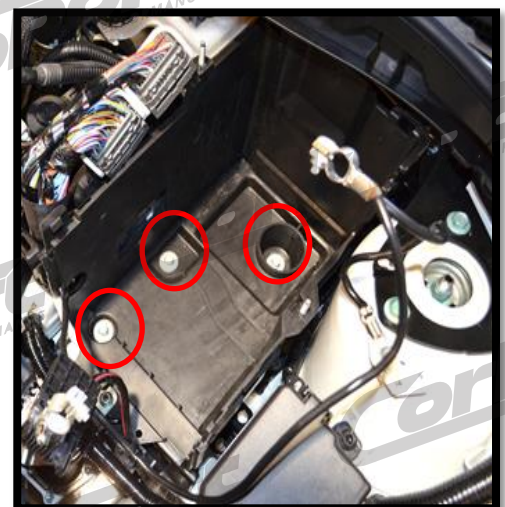

Figure 2d
- g) Remove the battery box. Remove the three 10mm bolts in the bottom of the box, and remove the battery box and ECU (Red Circles Figure 2d).
- f) Install the battery box back into place**, with three 10mm bolts (shown in **Figure 2d**).
- g) **Remove the battery box**. Remove the three 10mm bolts in the bottom of the box, and remove the battery box and ECU (**Red Circles Figure 2d**).
f) Install the battery box back into place, with three 10mm bolts (shown in **Figure 2d**). Feed the battery terminal lines through the cutouts in the box.